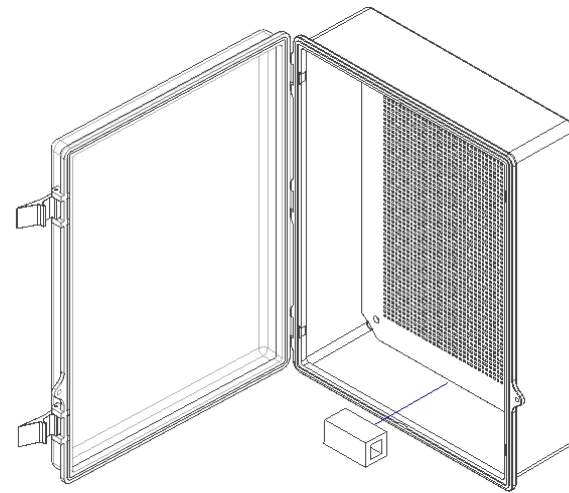

Figure 1
Step 2 – Secure a surface mount box to the base of the enclosure where convenient (Figure 1).